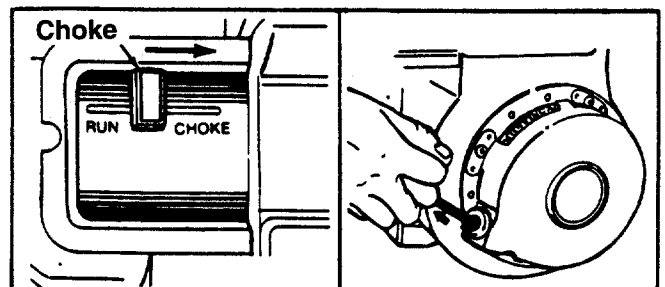

FIGURE 18.
3. Move choke lever to CHOKE position. See figure 18.